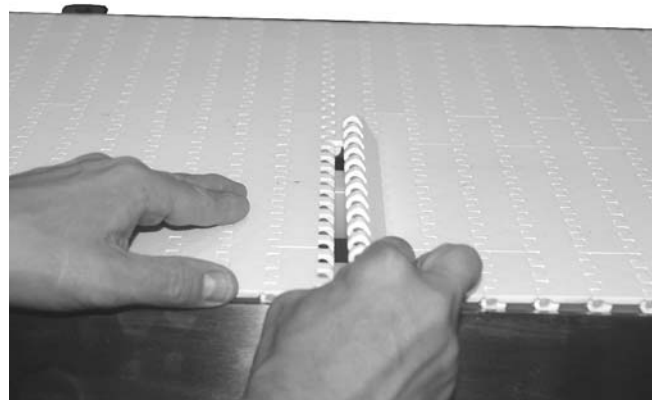

Figure 23
7. Bring the ends of the belt together (**Figure 23**).